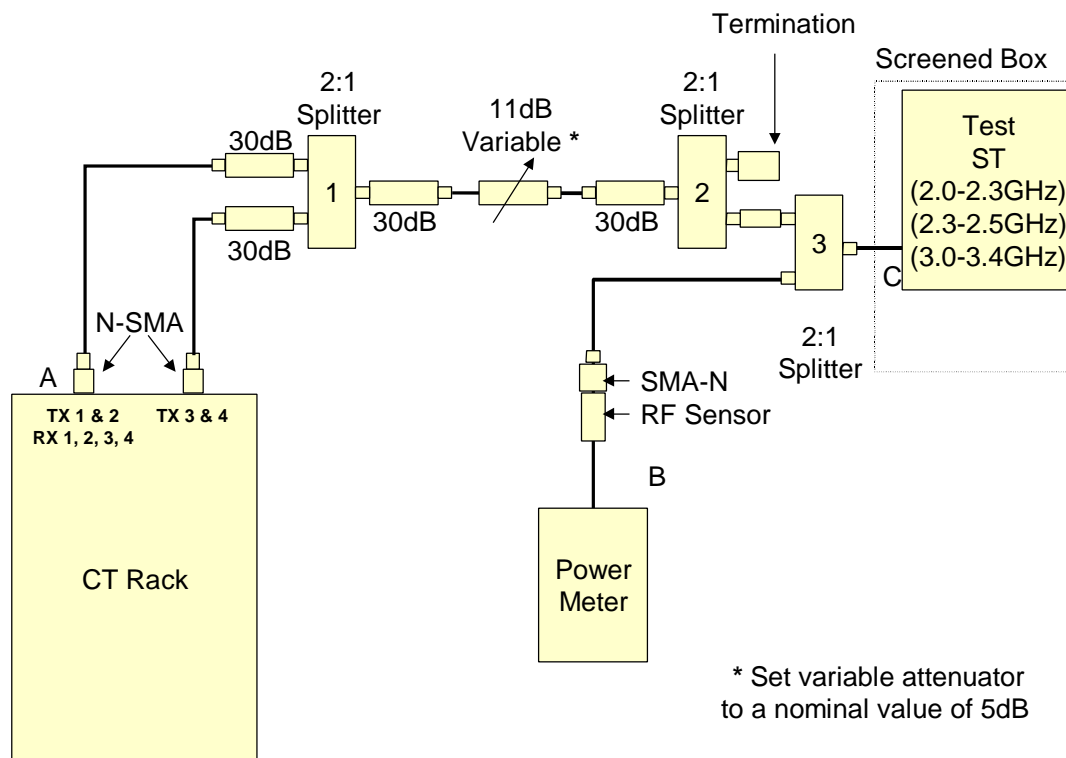

Figure 34. Test Set-up 2.0-2.3GHz, 3.4-3.6GHz, and 2.3-2.5GHz Bands.
- To set the receive sensitivity, first set up a test network for the Band under test as shown in Figure 34 and Figure 35 below. The Figures below show the test equipment connected directly to the outputs of the DIP/LNA and TX filter as would be the case for systems without coupler.